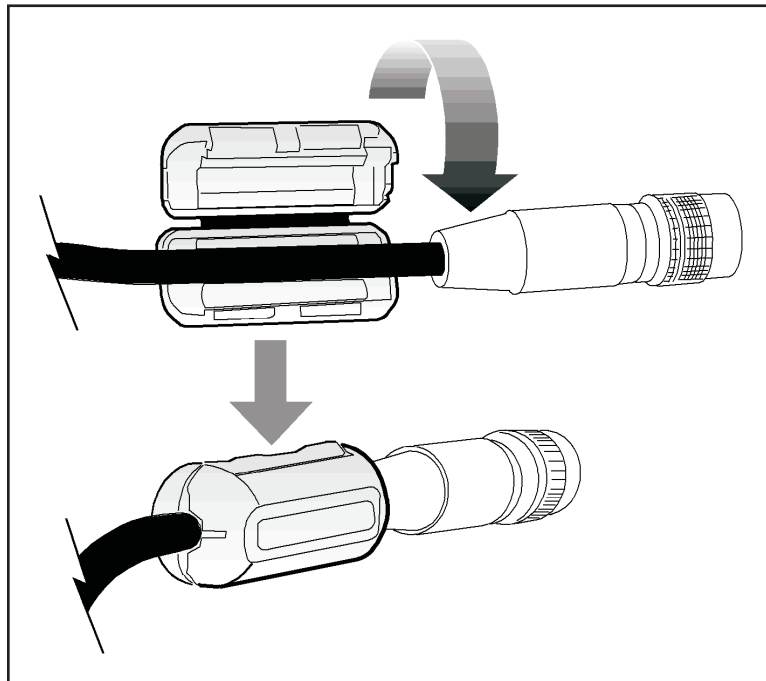

Figure 110 Attaching the Noise-Suppression Module
2. Place the noise-suppression module over one end of the coiled connecting cable, near the cable's connector (Figure 110) and snap it closed.